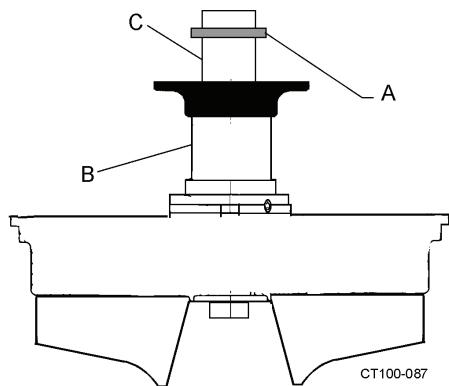

Figure 45 - Locations of Shims
23. If needed, change this clearance by adding or removing shims. Shims (Figure 45, item A) can be added on the drive shaft (Figure 45, item C) behind the impeller shaft (Figure 45, item B).